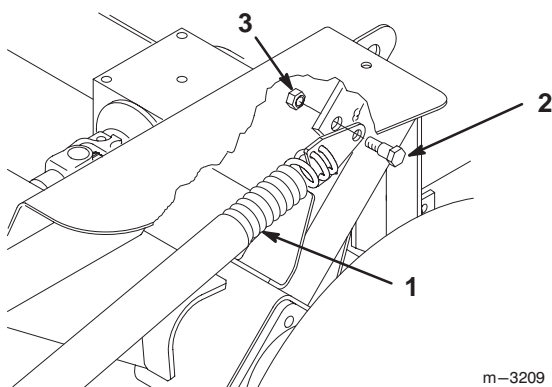

Figure 13
3. Remove the shoulder bolt (3/8 x 7/8 in. (23 mm)) and locknut (3/8 in.) securing spring end plate assembly to carrier frame (Fig. 13).